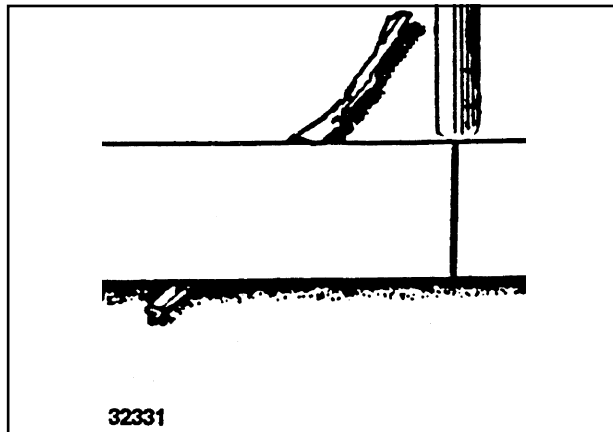

Figure 4-18 Mark Off Residue
- Do not count residue pieces smaller than $\frac{1}{8}$ " diameter or pieces not under marks (See Figures 4-18 and 4-19).